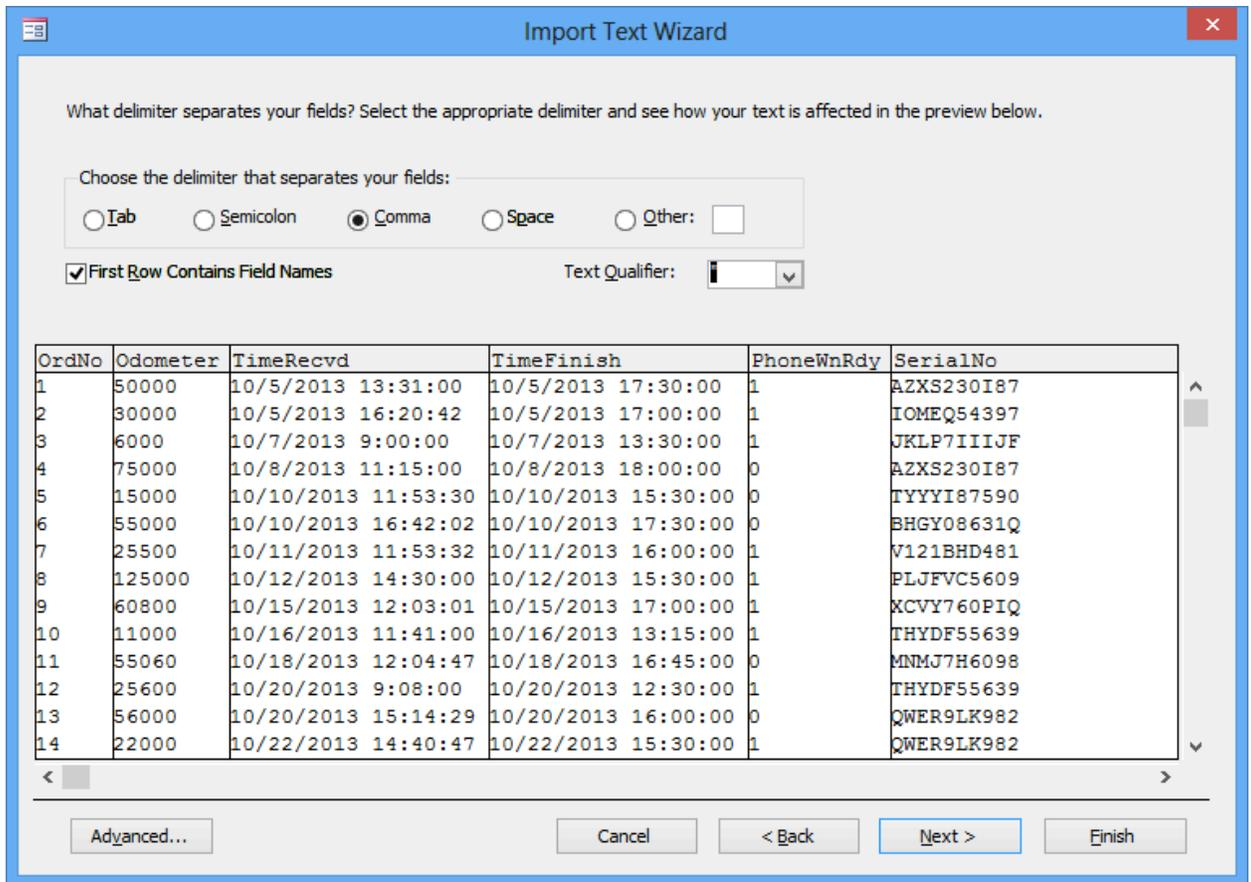

Figure 34: Delimiter Option Window in the Get External Data Wizard for Text Files
- Next, select the following options as shown in Figure 34: (1) “Comma” as the field separator, (2) “First Row Contains Field Names”, and (3) double quotation mark (") as the text qualifier, and click **Next** to continue.
5. Select the Delimiter Type: Next, select the following options: (1) "Comma" as the field separator, (2) "First Row Contains Field Names", and (3) double quotation mark (") as the text qualifier, and click **Next** to continue. See (Figure 34) above.